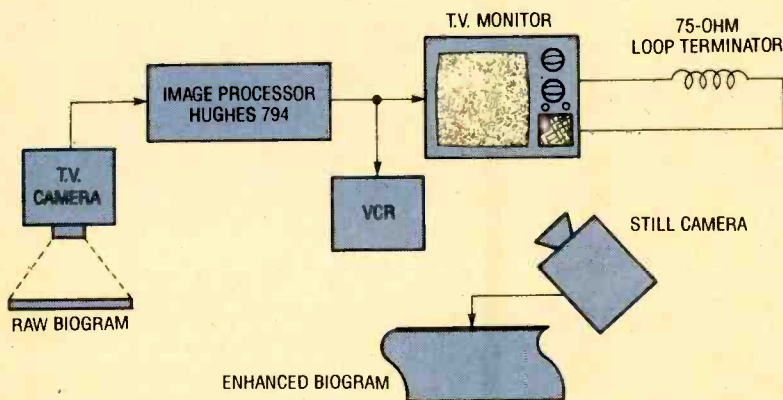

Fig. 5. This biogram image-enhancement system uses a Hughes Model 794 Processor to clarify incoming pictures.
Typically, a small area on a given plate is scanned with a microdensitometer and evaluated in terms of image density. The readings may be spaced only .015 to .05 millimeters apart. Each density number (DN) is then recorded as an 8- or 10-bit binary number. In the case of 8-bit data, for example, each DN records one of 256 levels of brightness numbered from 0 to 255, which is the value of the highest 8-bit binary number, 1111111. Pure black is equal to a DN of zero, while the highest DN (say, 255) is set at white. Gray tones result in intermediate DN's. That generates an immense amount of data. A 3 cm² portion of a plate may yield as much as 1,000,000 values. The digitized image is then reconstructed for video or photographic recording, or viewing via a monitor. Figure 5 shows a block diagram of the standard processing steps.
Fig. 5. Another way to handle lid mounting is to cement lengths of an acrylic bar to the lid on both ends, and drill screw holes through the side or end panels of the enclosure and the acrylic bar.